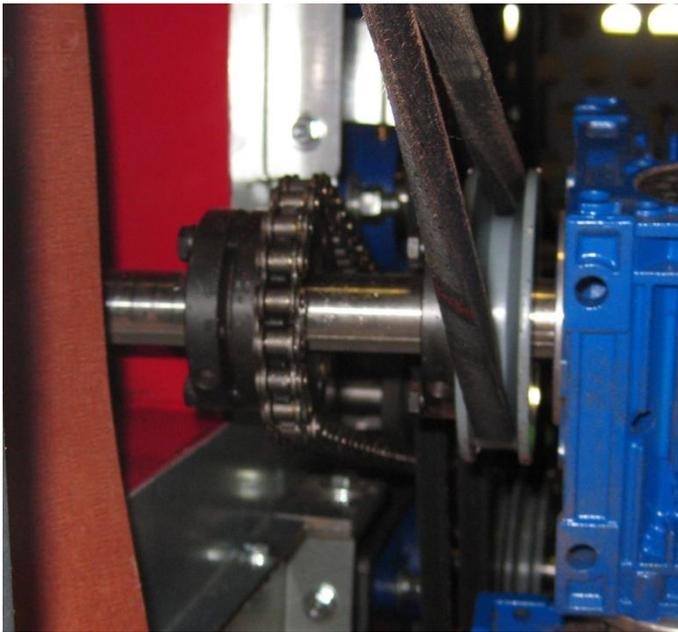

Figure 5
7. Utilizing existing taper-lock bushing, install chain sprocket onto the motor shaft. **DO NOT** fully tighten taper-lock. **See Figure 5.** **Note:** Both sprockets provided are identical. **Note:** The bushing will be installed first and then the sprocket. The installation orientation of the new components will mirror that of the superseded components.